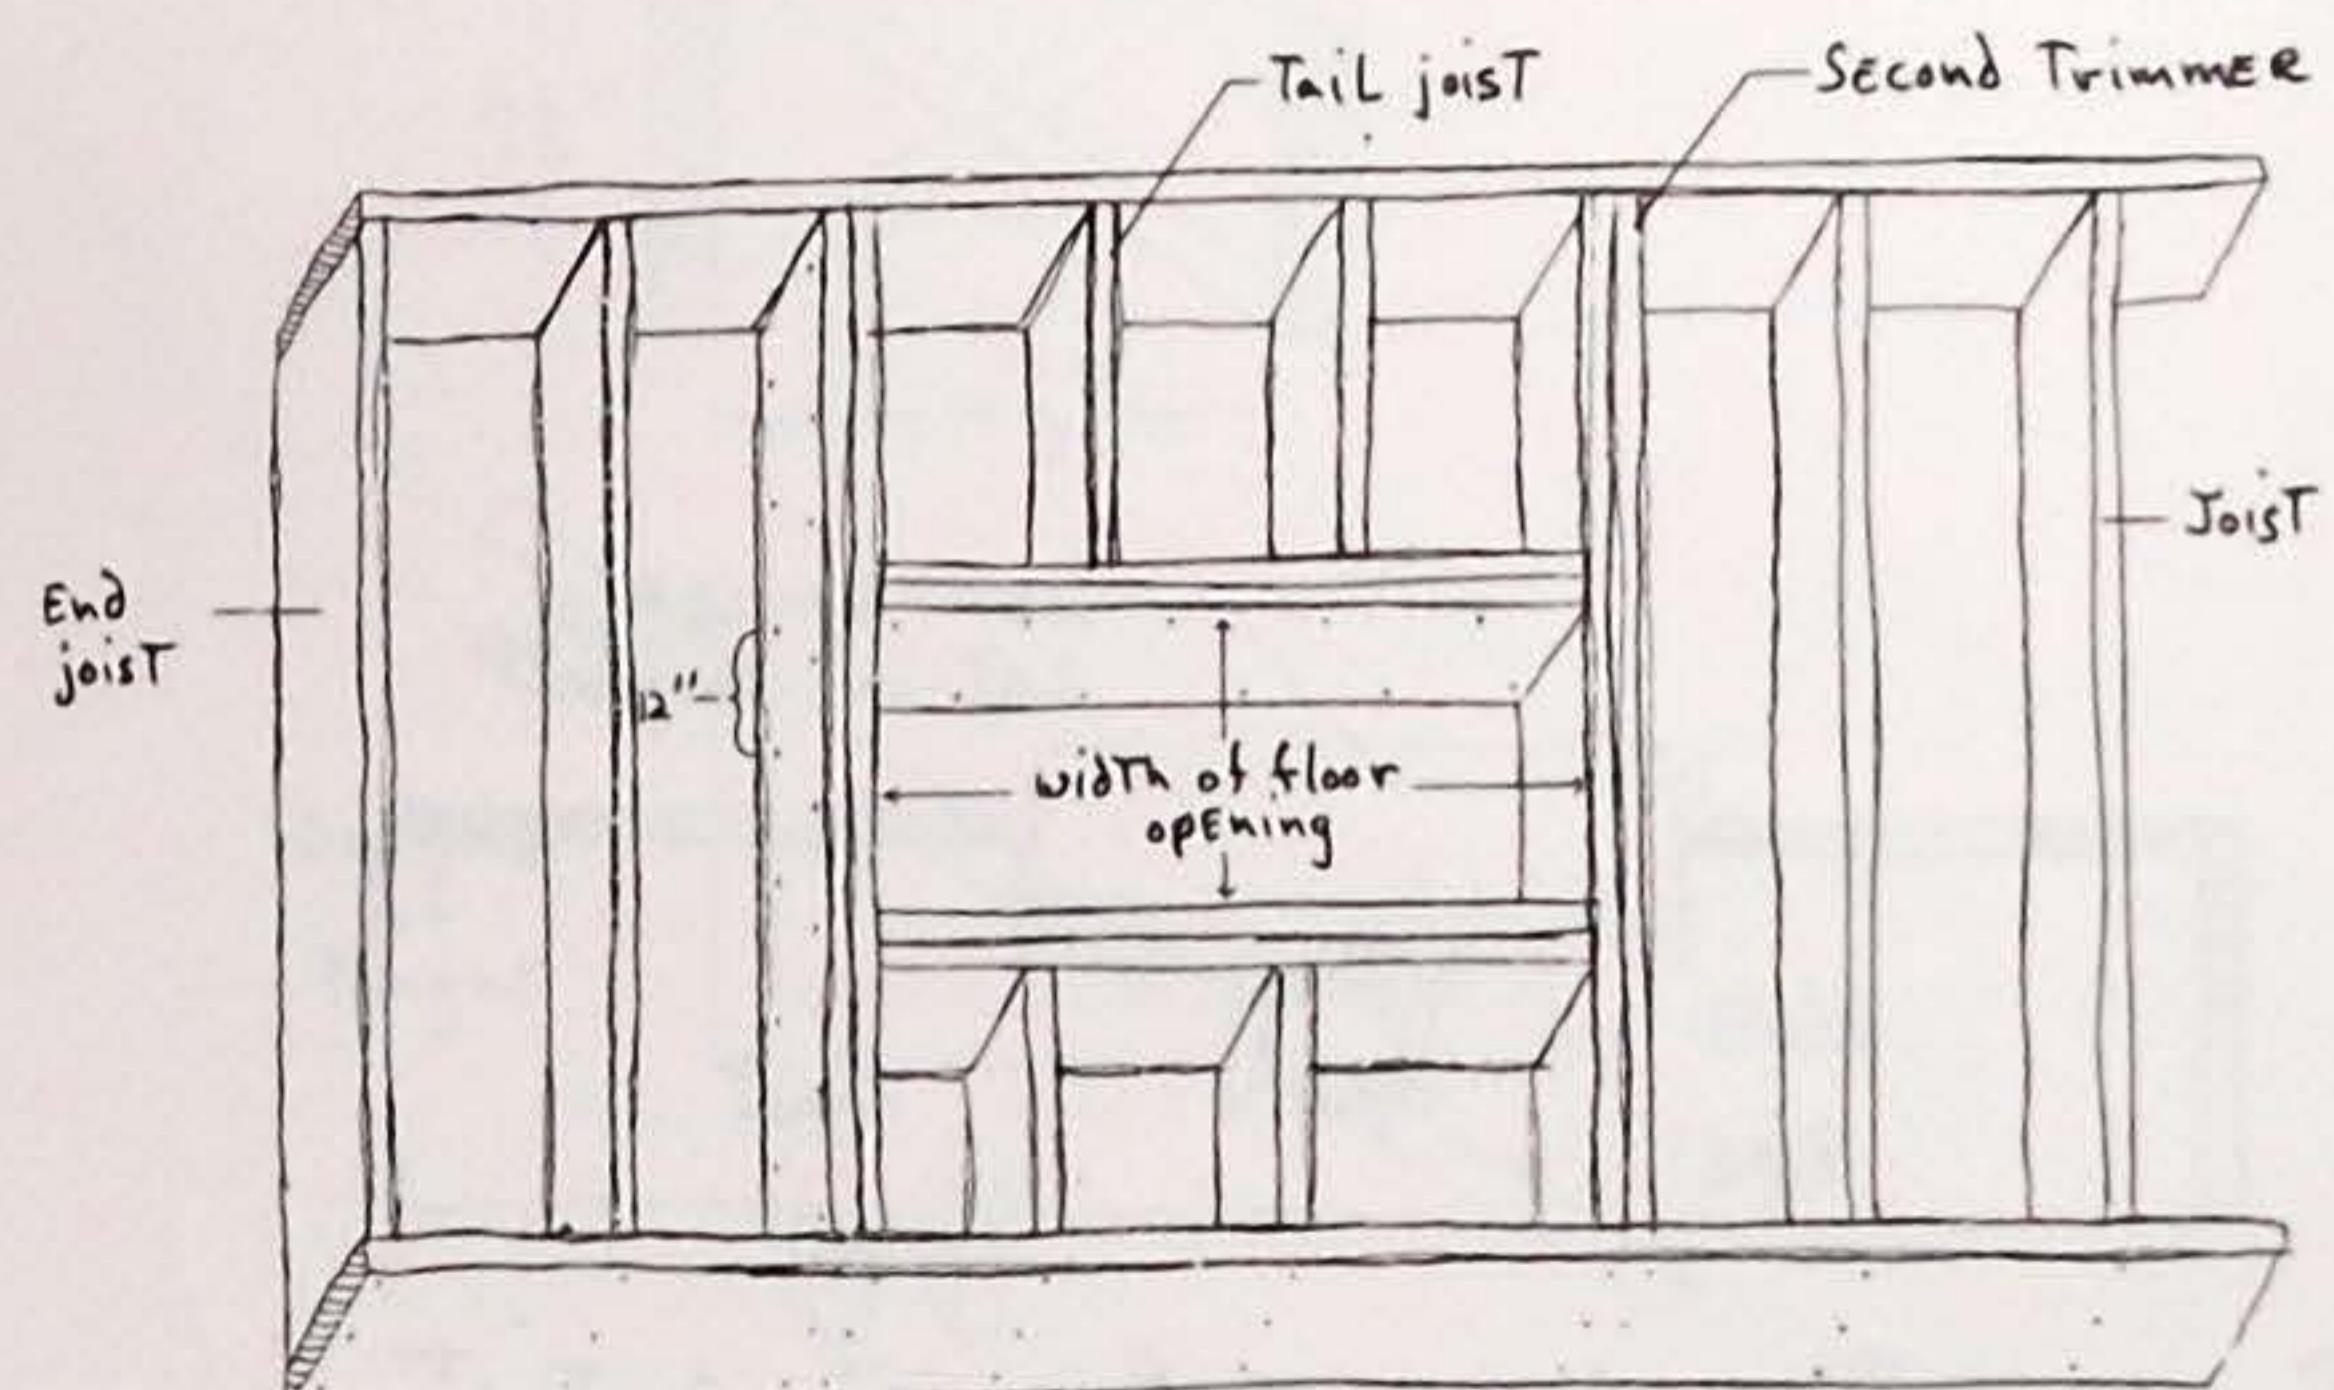

Fig. 10-Nailing in The Second Trimmers
O.C. along each edge. After the second trimmers are installed, the adjacent joists can be nailed in place. Fig. 10.